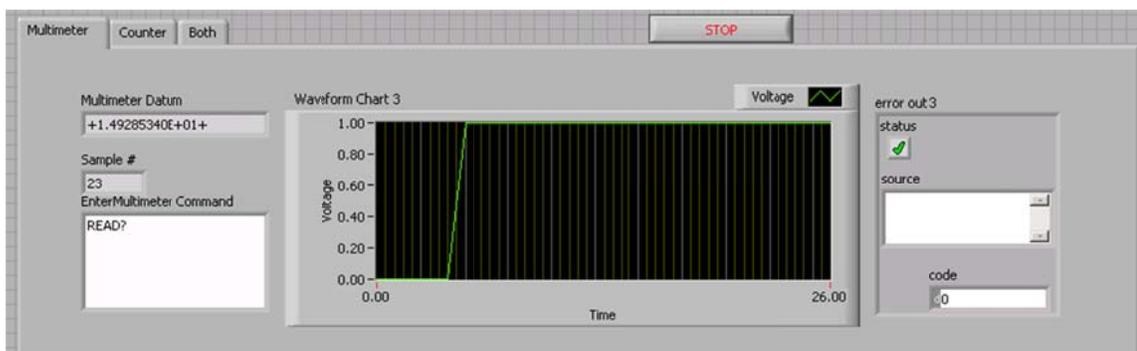

Figure 3. Multimeter mode
- i. Multimeter Mode (Figure 3): only communication with HP 34401A multimeter is established, communication is initialized with strictly this device. The functions that are not included into the native interface of this device will not be available